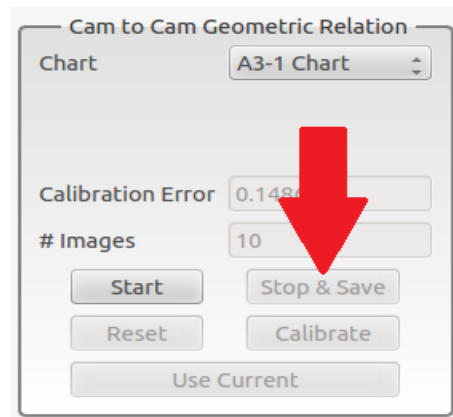

Figure 25
- Press *Stop and Save* (Figure 25)